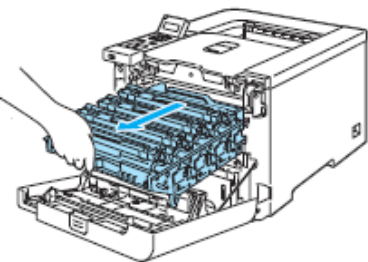

Fig 1
2. Lift and pull the green handle of the drum & toner drawer towards yourself. (Fig 1)